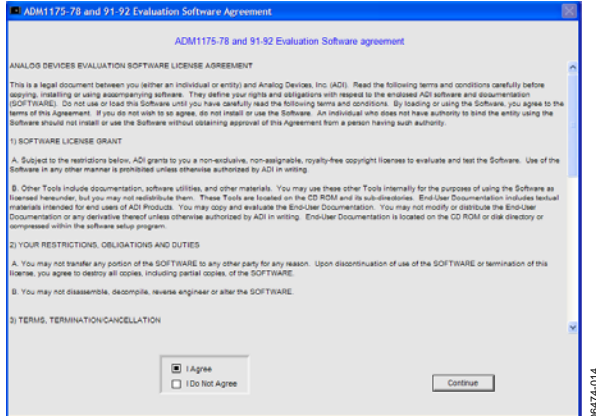

Figure 14. Software Agreement
2. Once launched, the **Evaluation Software Agreement** window appears (see Figure 14). Choose **I Agree** to concur with the conditions, then select **Continue**.